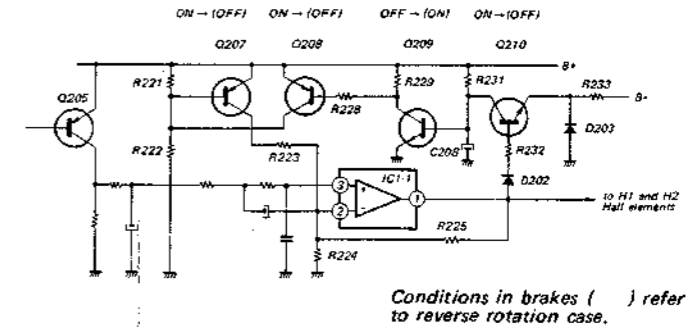

Fig. 2-3.
**2. Maintaining Forward Rotation (See Fig. 2-3)**